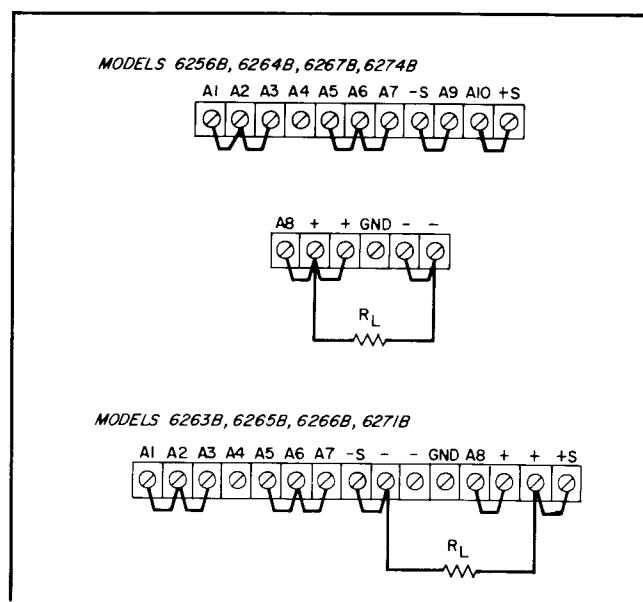
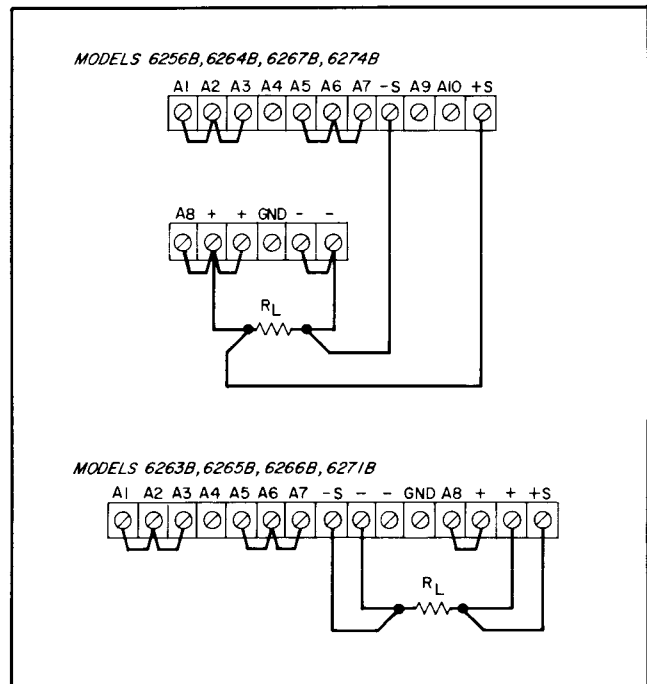

Figure 3-2. Normal Strapping Patterns
Figure 3-3. Remote Sensing
a. Turn CURRENT controls (7) and OVERVOLTAGE ADJUST potentiometer (5) fully clockwise and check that rear panel straps are connected as shown in Figure 3-2, but do not connect load R_L .
terminals (see Figure 3-2), and turn it back on.
3-7 This power supply was shipped with the proper rear panel strapping connections made for constant-voltage/constant-current operation with local sensing and local programming. This strapping pattern is illustrated in Figure 3-2. By means of the front panel voltage and current controls, the operator selects either a constant-voltage or a constant-current output. Whether the supply functions in the constant-voltage or the constant-current mode depends on the settings of the voltage and current controls and on the resistance of the output load. For values of load resistance greater than a critical crossover value equal to the voltage setting divided by the current setting, the supply
3-26 Because of the unavoidable voltage drop developed in the load leads, the normal strapping pattern shown in Figure 3-2 will not provide the best possible voltage regulation at the load. If, for example, one were to use 8-gauge wire to connect a load that is located only 5 feet from a Model 6256B 10V 20A supply, the regulation measured at the load would be about 120 millivolts as compared to the 1.2 millivolt regulation that could be measured at the supply's output terminals. Thus even relatively short load leads can cause a considerable degradation of the supply's performance. The remote sensing connections shown in Figure 3-3 improve the voltage regulation at the load by monitoring the voltage there instead of at the supply's output terminals. (The advantages of remote sensing apply only during constant voltage operation. This is because in the constant current mode the resistance of the load leads has no adverse effect on a supply's performance.)
3-27 As can be seen in Figure 3-3, remote sensing involves removing the (+S) and (–S) jumpers from the rear panel terminals, connecting the load leads normally, and using a separate pair of wires to connect the (+S) and (–S) sensing terminals to the load. The following paragraphs discuss some precautions that should be observed when making a remote sensing installation.
The (+S) jumper is the one that links the (+S) terminal to the (+OUT) or (A10) terminal when the supply's terminals are strapped for normal operation as shown in Figure 3-2. The (–S) jumper is the one that links the (–S) terminal to the (–OUT) or (A9) terminal.